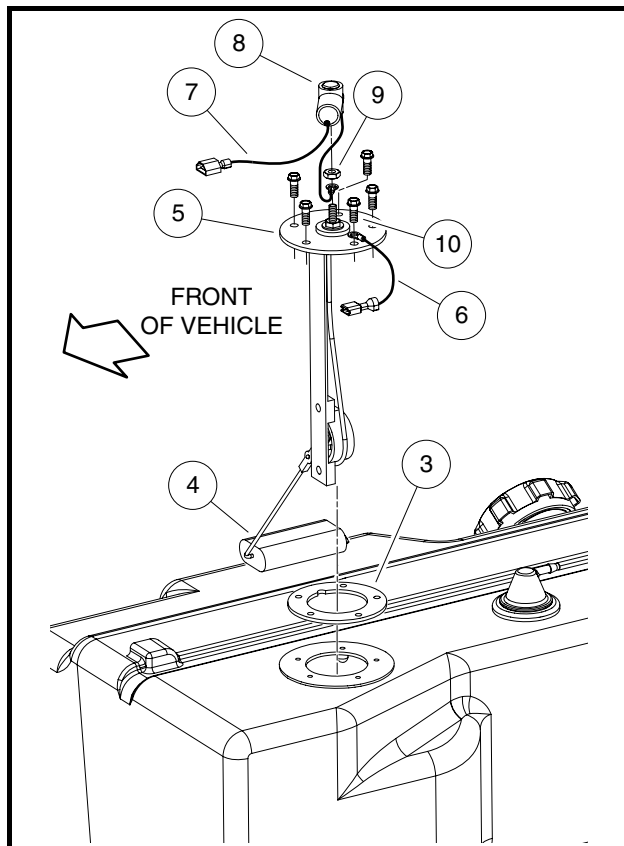

Figure 13a-5 Fuel Level Sending Unit Removal
5. Remove the rubber boot (8) from the center post on the fuel level sending unit. Remove the nut (9) from the center post, and remove the orange wire (7) (**Figure 13a-5, Page 13a-10**). Retain the hardware.
6. Remove the hex-head plastic thread screw (10) securing the black ground wire (6) to the fuel level sending unit, and remove the black ground wire. Retain the hardware.
7. Remove the four remaining hex-head plastic thread screws from the fuel level sending unit flange (5). Retain the hardware.
8. Carefully remove the sending unit and gasket (3). Feed the rheostat arm and float (4) through the fuel tank hole. Immediately place the fuel level sending unit in a pan to catch fuel. **See following DANGER and NOTE.**